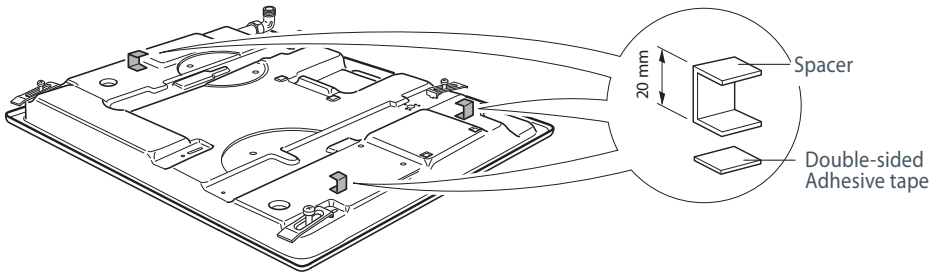

Fig. 3 Mounting the base clearance spacers
- A minimum clearance of 20 mm has to be kept between the base of the cooktop and the top of an underbench appliance or a shelf. To ensure this clearance, mount the spacers supplied with the appliance, as shown in Fig. 3.